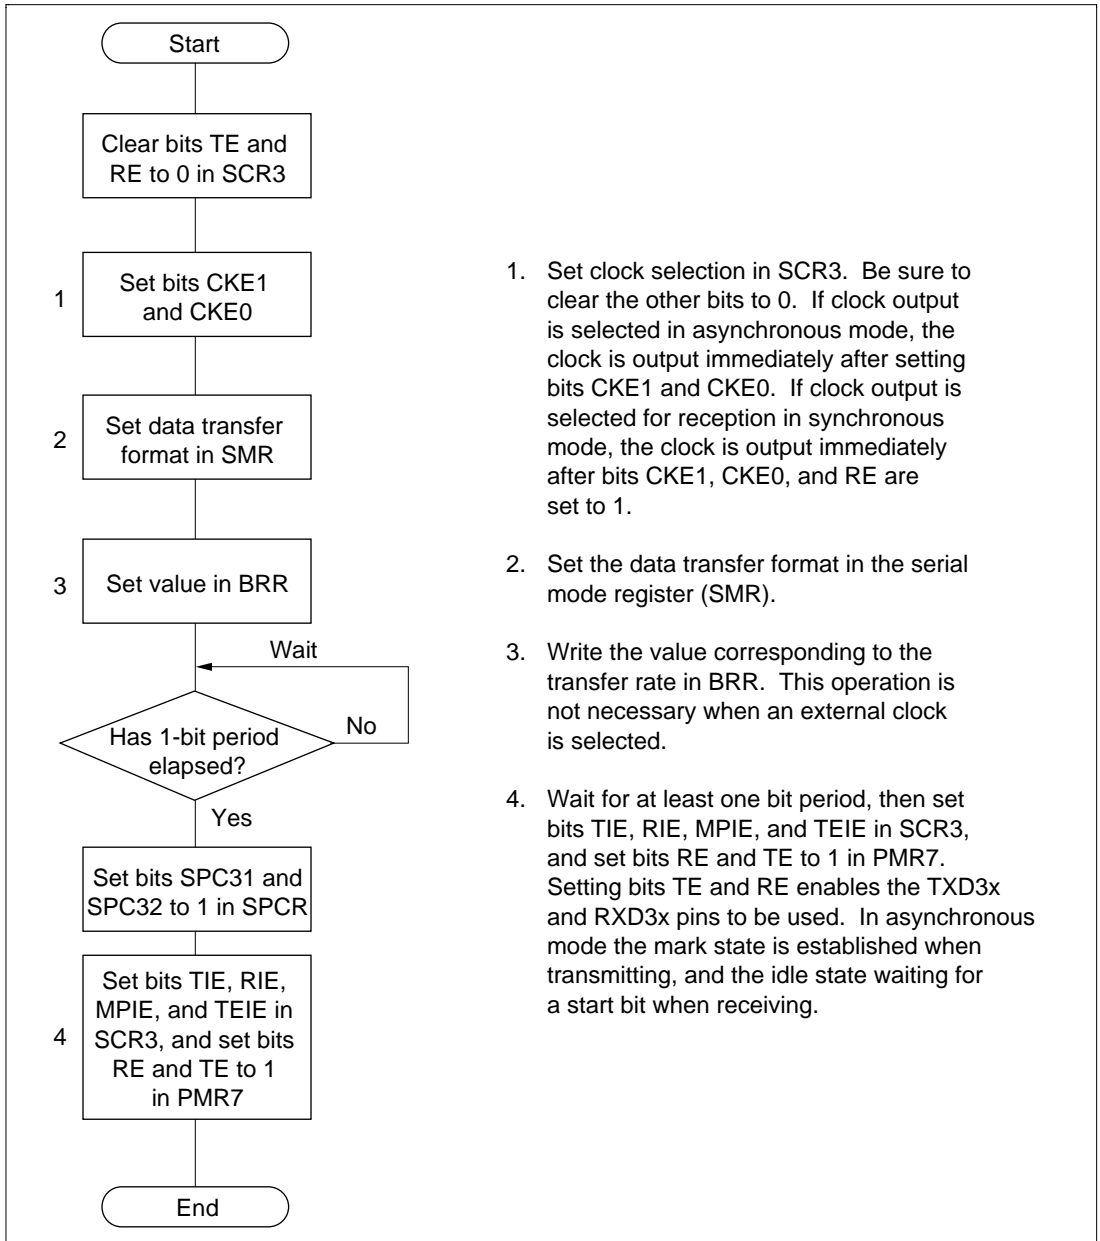

Figure 10.5 Example of SCI3 Initialization Flowchart
Figure 10.5 shows an example of a flowchart for initializing SCI3.
Data transfer on SCI3 first of all requires that SCI3 be initialized as described in 10.1.4 (3)(a). SCI3 initialization, and shown in figure 10.5.